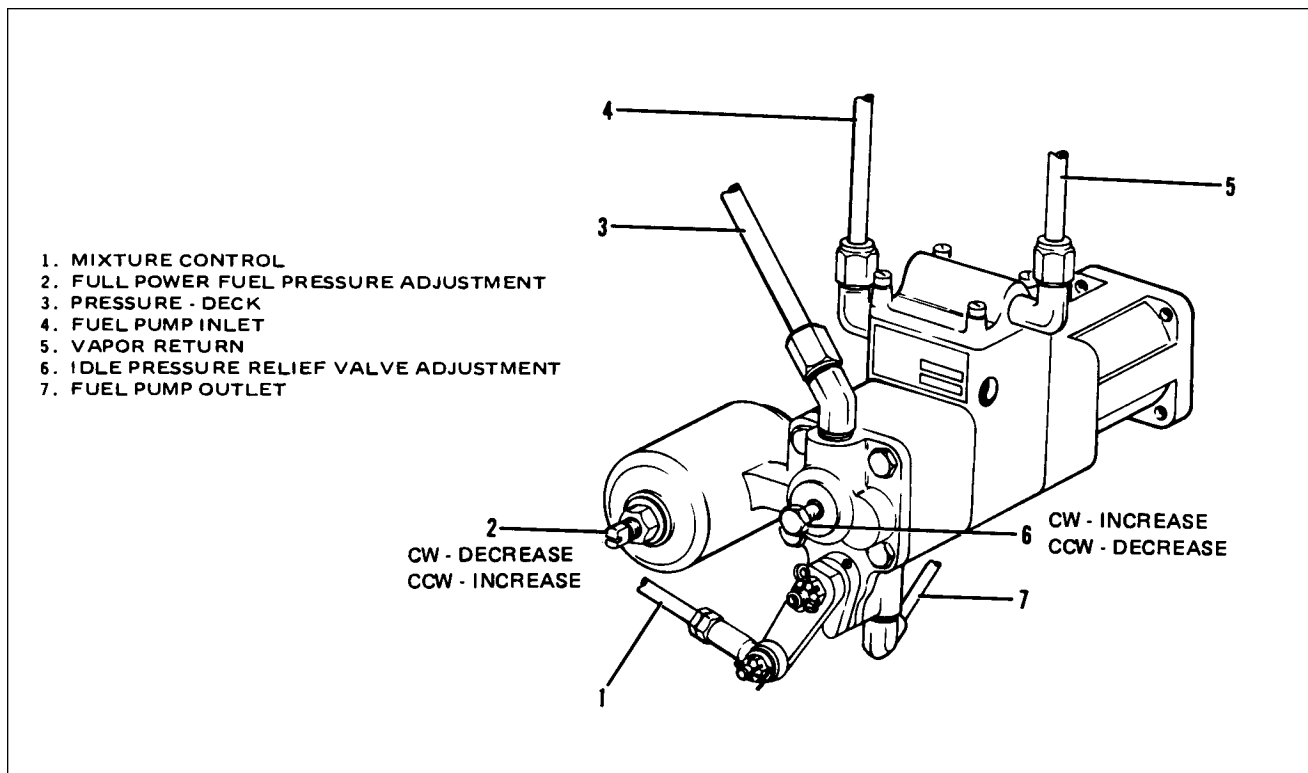

Figure 8-35. Sectional View of Altitude Compensating Fuel Pump Assembly
3. While maintaining  $700 \pm 25$  RPM, set the idle fuel pressure at  $6.5 \pm 0.25$  psi by adjusting the idle pump adjustment screw (refer to Figure 8-35, item 6); clockwise adjustment increases pressure; counterclockwise adjustment decreases pressure.
- g. Adjustment for Full Power Performance: (Refer to Figure 8-35.)
3. If adjustment is required, loosen the jam nut on the adjusting screw located on the aneroid housing of the fuel pump. (Refer to Figure 8-35, item 2.) Clockwise adjustment decreases fuel flow reading; counterclockwise adjustment increases fuel flow reading; one full turn will cause a 1.0 to 1.5 gph change. Use CAUTION when loosening and tightening the jam nut so as not to change settings or over torque the jam nut.